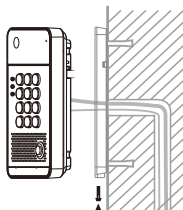

Figure 10
- Push the device into the Wall-mounted hanging shell and tighten it with 1 screw as shown in Figure 10.